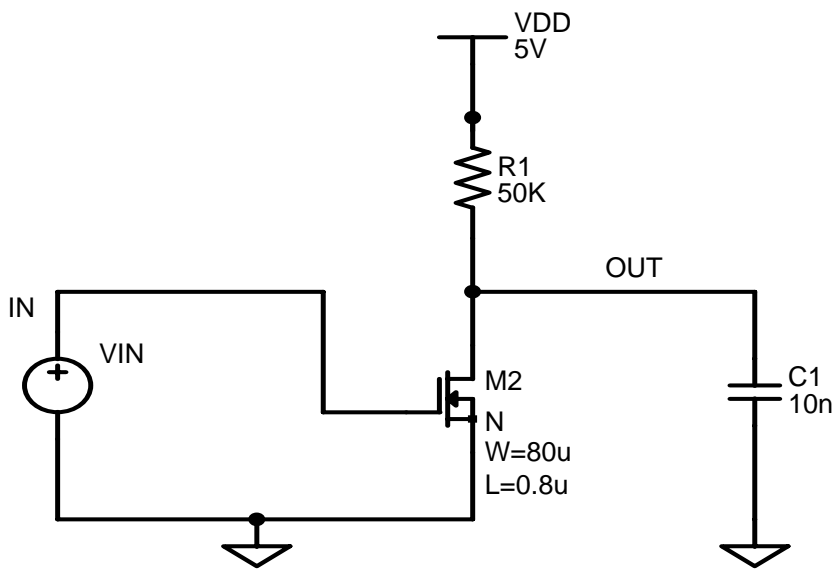

Fig. 1. Common source inverting amplifier.
1. Perform a design report comparing a MOS inverting amplifier in Figure 1 to one where a BJT substitutes for the MOSFET. Compare and contrast gain, bandwidth, and settling time. For the MOS case, this is known as a common source amplifier, while for the BJT, this is a common emitter amplifier.